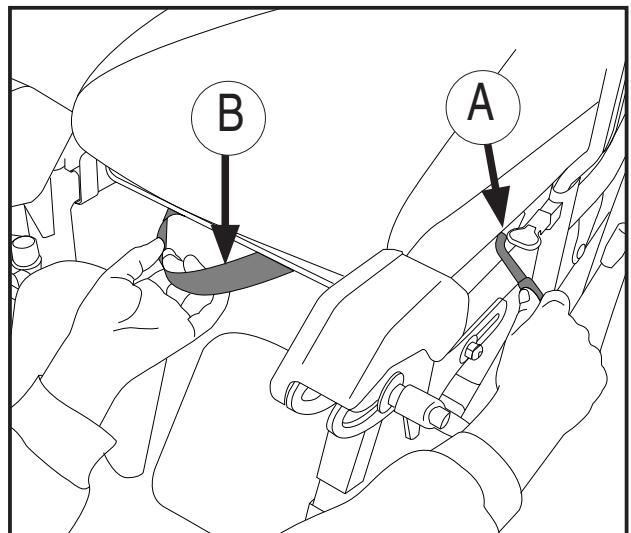

Figure 12
Sliding seat Figure 12
- Use the sliding seat to move the user as far forwards in the chair as possible (see Figure 12, page 9)